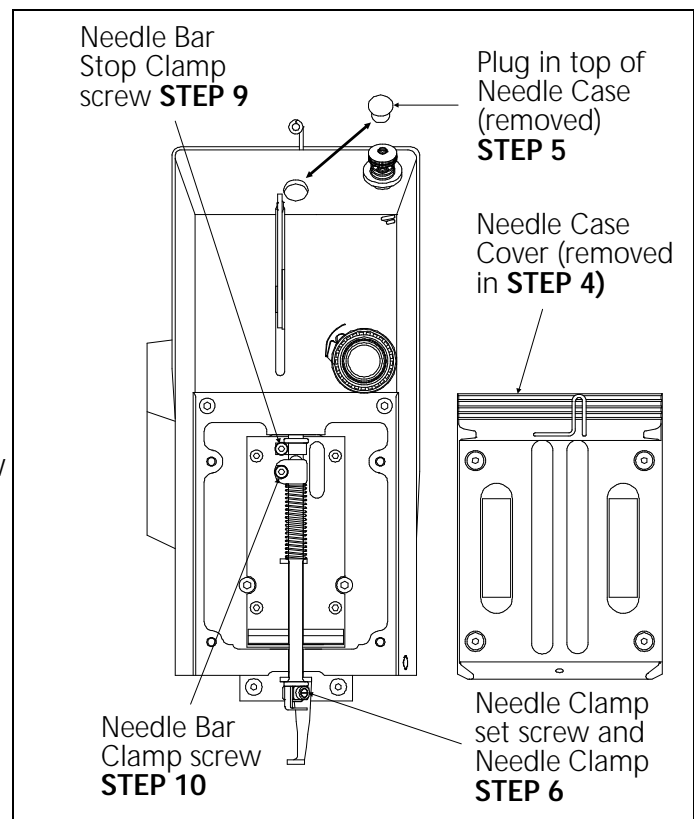

Figure 3
5. Refer to Figure 3 and snap out the plug in the top of the needle case so the needle bar can be removed out the top of the needle case.
6. Locate and loosen the needle clamp set screw in Figure 3 and remove the needle and needle clamp (and old needle clamp damper if present) from the bottom of the needle bar.
9. Still referring to Figure 3, loosen the needle bar stop clamp (black clamp).
10. Loosen the needle bar clamp shown in Figure 3.